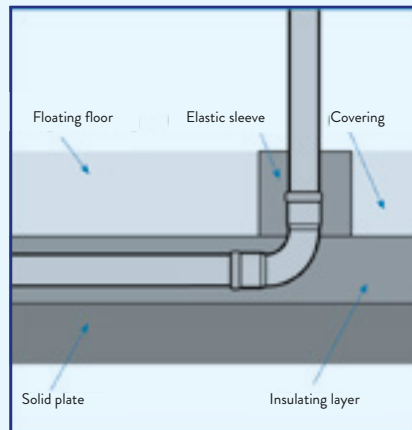

Fig. 2
If an installation is carried out under floating floors, the pipes are installed within the insulating layer so they can expand unhindered. The vertical outlets and junctions must be equipped with elastic sockets made of insulating material or insulating plastic (Fig. 2).
- Diameters 76.1, 88.9 and 108.0 with flat flanges DIN-2576 in AISI-316L (1.4404) on the ends (Fig. 2)
(Fig. 2)